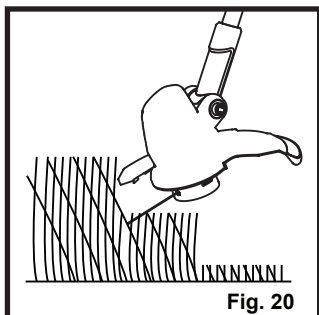

Fig. 20
- Cut repeatedly from up and down in layers when the grass is very high (Fig. 20 - 21)